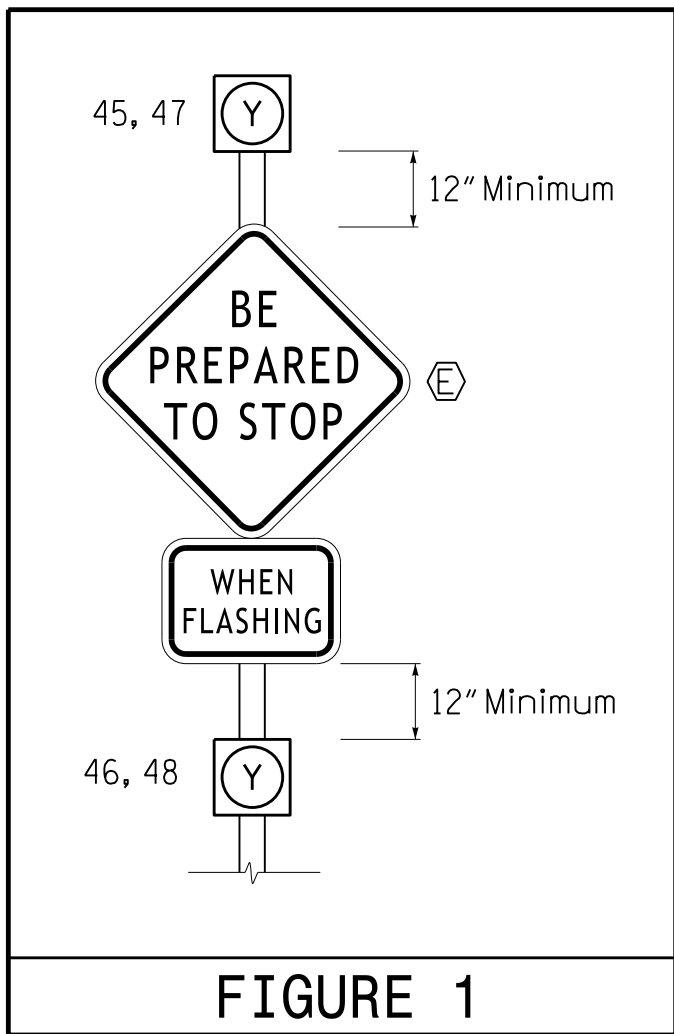

FIGURE 1
"BE PREPARED TO STOP" Sign (W3-4) with "WHEN FLASHING" Sign (W16-13) See Figure 1	(E)